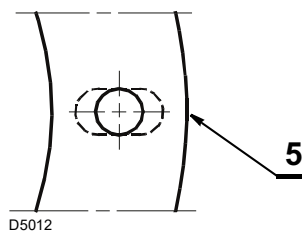

Fig. 8
- if necessary, widen the insulating gasket holes 5)(Fig. 8), taking care not to damage them.